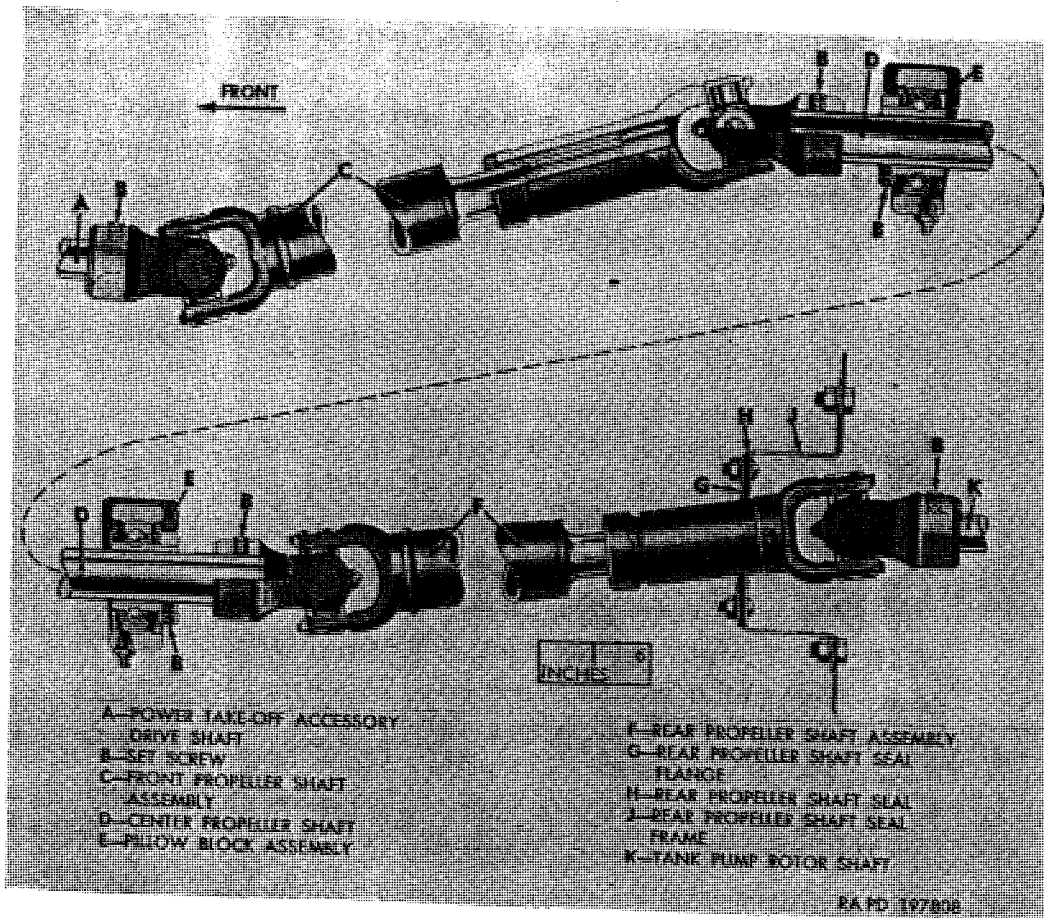

Figure 374. Water tank pump propeller shafts.
b. Front Propeller Shaft Removal (fig. 374).
- (1) Loosen hex-socket setscrew (B) securing universal joint yoke on power-take-off accessory drive shaft (A). Loosen hex-socket setscrew (B) securing universal joint yoke on forward end of center propeller shaft (D).
- (2) Push yoke onto power-take-off accessory drive shaft (A) as far as possible to permit removing yoke from center propeller shaft (D) at other end. Move universal joint yoke forward off end of center propeller shaft, telescoping shaft at slip joint.
c. Front Propeller Shaft Installation (fig. 374).
- (1) Make sure woodruff key is in place in accessory drive shaft end in front end of center propeller shaft.
- (2) Position propeller shaft assembly under vehicle with slip joint end toward rear. Place front universal joint yoke on accessory drive shaft and push onto shaft as far as possible. Telescope shaft at slip joint and place universal joint yoke on forward end of center propeller shaft. Make sure woodruff keys have not been dislodged at either end.
- (3) At power-take-off, position yoke on shaft so that setscrew indexes with milled flat on shaft; then tighten setscrew. Position rear universal joint yoke on front end of center propeller shaft so that yoke completely covers the woodruff key; then tighten yoke setscrew.
d. *Rear Propeller Shaft Removal* (fig. 374).
- (1) At rear end of shaft, remove four screws and nuts attaching propeller shaft seal flange (G) and seal (H) to seal frame (J).
- (2) At forward end of shaft, loosen setscrew (B) securing universal joint yoke on rear end of center propeller shaft (D). Push yoke onto center shaft as far as possible.
- (3) At rear end of shaft, loosen setscrew (B) securing universal joint on pump rotor shaft (K). Move universal joint yoke forward off pump rotor shaft, telescoping propeller shaft at slip joint. Move propeller shaft forward to complete removal, withdrawing rear universal joint assembly from seal frame.
e. *Rear Propeller Shaft Installation* (fig. 374).
- (1) Make sure woodruff key is in place in rear end of center shaft and in pump rotor shaft (K). Place seal flange (G) and seal (H) over slip joint end of shaft.
- (2) Position propeller shaft assembly under vehicle, with universal joint at slip joint end inserted through seal frame (J) and with universal joint yoke in place on pump rotor shaft (K). Push universal joint yoke onto rotor shaft as far as
- (3) Position universal joint yoke at both ends so the yoke completely covers the woodruff key; then tighten yoke setscrews (B).
- (4) Position propeller shaft seal (H) and seal flange (G) against seal frame (J) over slip yoke and secure with four screws and nuts.
f. Center Propeller Shaft and Pillow Block Removal (fig. 374).
- (1) Loosen setscrew (B) securing universal joint yoke to each end of center propeller shaft (D).
- (2) Remove two nuts and cap screws attaching each pillow block assembly (E) to body underframing.
- (3) Shorten front and rear propeller shafts by telescoping at slip joint to remove yoke from one end of center propeller shaft; then remove shaft from yoke at opposite end and remove from under vehicle.
- (4) Remove woodruff key from each end of shaft. Loosen two setscrews (B) securing each pillow block bearing collar and bearing inner race to shaft, then slide pillow blocks off shaft.
g. Center Propeller Shaft and Pillow Block Installation (fig. 374).
- (1) Place pillow block assembly (E) over each end of center shaft, but do not tighten setscrews (B) in bearing collar at this time. Tap woodruff key into keyseat in each end of shaft.
- (2) Position shaft and pillow blocks under vehicle and install front and rear propeller shaft yokes on ends of shaft, being careful not to dislodge woodruff keys. Do not tighten setscrews in yokes at this time.
- (3) Attach each pillow block to body underframing with two $\frac{1}{2}$ -20 x 2 cap screws and $\frac{1}{2}$ -20 safety nuts. Tighten nuts.
- (4) Position universal joint yokes on ends of shafts so the yokes completely cover the woodruff keys; then tighten setscrews (B) in yokes.
- (5) Position center shaft in pillow blocks to provide $4\frac{5}{16}$ inches from center of pillow block bracket to center of universal joint yoke; then tighten two setscrews in each pillow block bearing collar. This locks the bearing inner race to the propeller shaft.